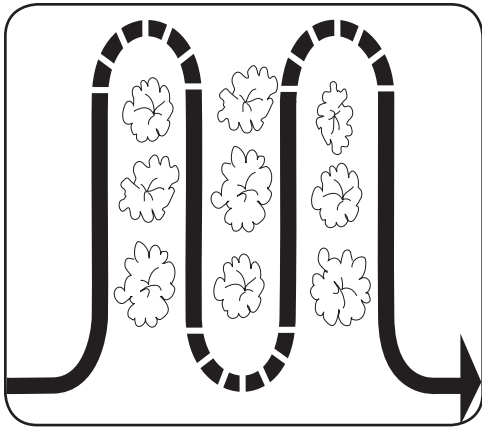

Figure 4-5
- When cultivating (breaking up surface soil around plants to destroy weeds, see Figure 4-5), Adjust the tines to dig only 1” to 2” deep. Using shallow tilling depths helps prevent injury to the plants whose roots often grow close to the surface. If needed, lift up on the handlebars slightly to prevent the tines from digging too deeply. (Cultivating on a regular basis not only eliminates weeds, it also loosens and aerates the soil for better moisture absorption and faster plant growth.) Watering the garden area a few days prior to tilling will make tilling easier, as will letting the newly worked soil set for a day or two before making a final, deep tilling pass.